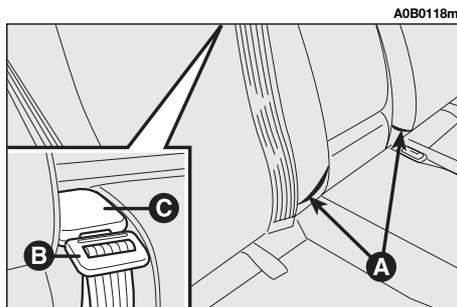

fig. 40
– Check that the lateral safety belt buckles (**A-fig. 40**) are located in their pockets on the seat back and that the tab (**B-fig. 40**) of the central abdominal safety belts is hooked onto the support (**C-fig. 40**).